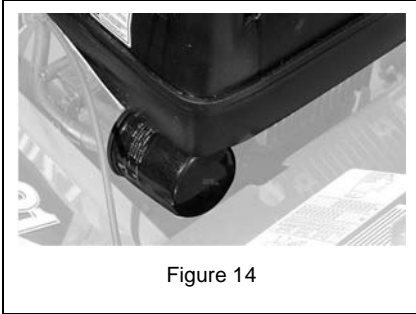

Figure 14
3. Turn filter counterclockwise to remove (Figure 14).